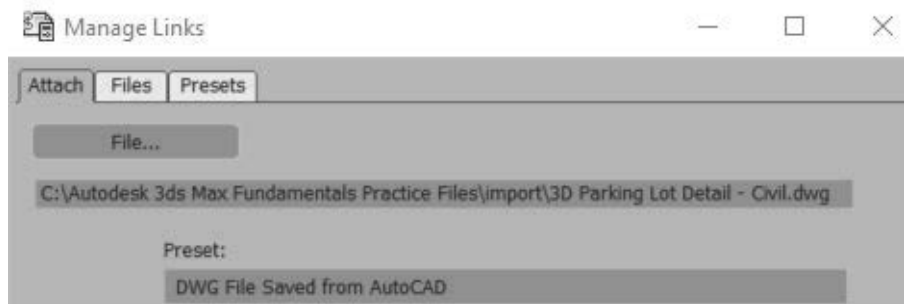

Figure 3–23
2. Select **File>Import>Link AutoCAD**. In the Open dialog box, browse and open the ...*import* folder in the practice files folder. Select **3D Parking Lot Detail-Civil.dwg** and click **Open**. The Manage Links dialog box opens and displays the full path of the file, as shown in Figure 3–23. The full path must display for the import to work correctly.